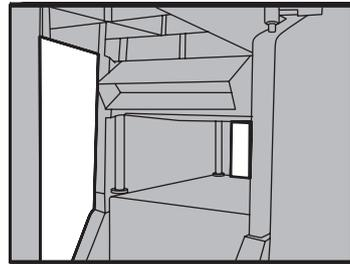

Fig 16
11) Once fitted correctly, the extraction port should look as in Fig 16.